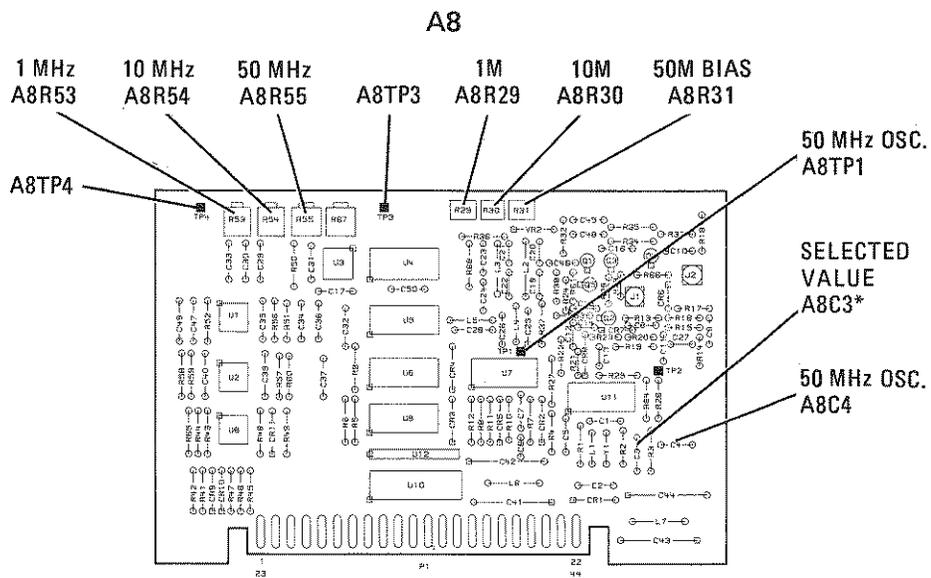
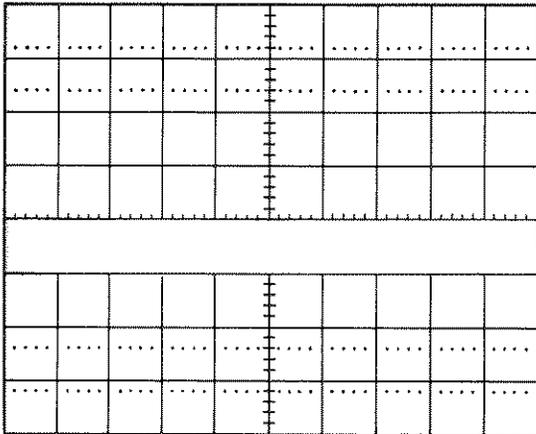

Figure 5-38. Marker Adjustments on A8
Figure 5-39. Marker Envelope
2. Set 8350A start/stop sweep for 10 MHz to 2.0 GHz. Select 83525A AMPTD MARKERS. Connect counter with 1 : 1 capacitive probe to A8TP1. Adjust A8C4 (Figure 5-38) for frequency counter indication of 50 MHz  $\pm$ 250 Hz. If A8C4 does not have the range required to adjust the 50 MHz crystal oscillator, select a new value for A8C3. (An increase in capacitance will decrease frequency.)
3. Select 100 ms Sweep Time. Connect oscilloscope with 1:1 probe to A8TP3 (Figure 5-38). Set 8350A power to +13 dBm and select 1 MHz Markers. Adjust A8R29 (1M) for the flattest envelope height. (See Figure 5-39.) Select 10 MHz Markers. Adjust A8R30 (10M) for the flattest envelope height (Figure 5-38). Select 50 MHz markers. Adjust A8R31 (50M) for the flattest envelope height. (Optimum setting for these adjustments will be ones that provide the most uniform birdie height across the band with the adjustments nearest the center of their range. Especially note birdie height at the high-frequency end and set the adjustment just before the marker amplitude drops off.
4. Connect oscilloscope to A8TP4 (Figure 5-38). Set RF POWER to 0 dBm. Adjust IF gain potentiometers A8R53 (1 MHz), A8R54 (10 MHz), and A8R55 (50 MHz) for each marker frequency to an average envelope height of 1.0 V p-p.